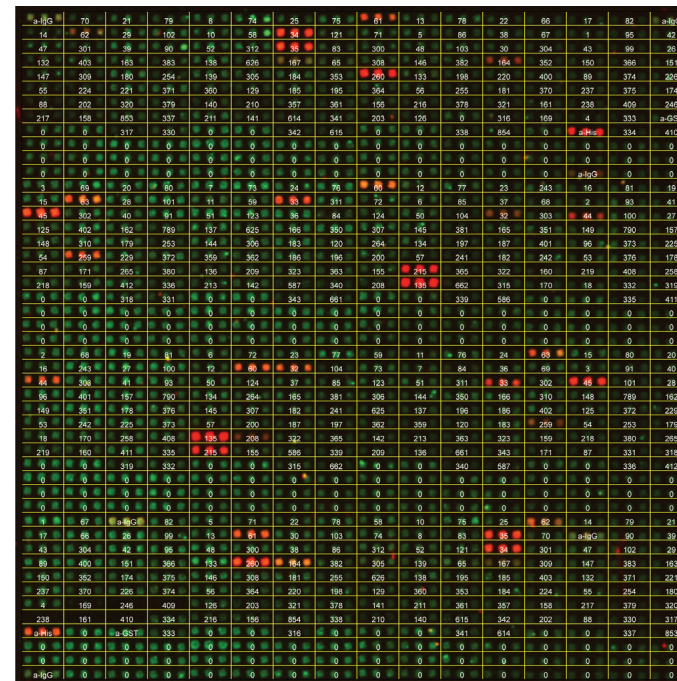

Figure 4. EpiTitan™ Histone Peptide Array with Grid Overlay.
4. The scanning resolution should be set at 25 μm . It takes roughly 6 minutes per array to scan at this resolution. Higher resolution data can be collected at 10 μm if desired. See Figure 4 for an example of actual array data.